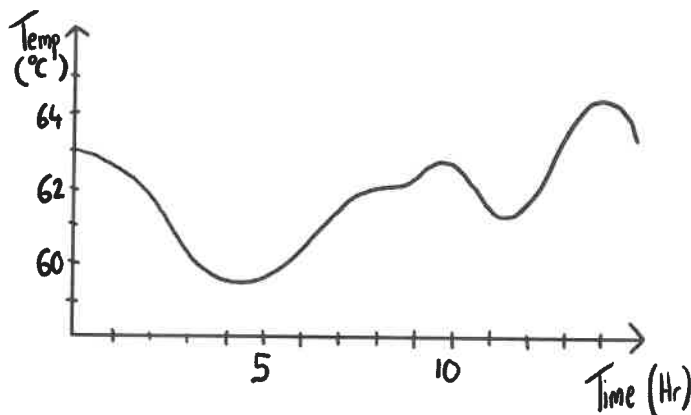

Figure 22: Graph showing the current temperature of a science experiment.
a) What output would you expect when the display gives the data shown in Figure 22?